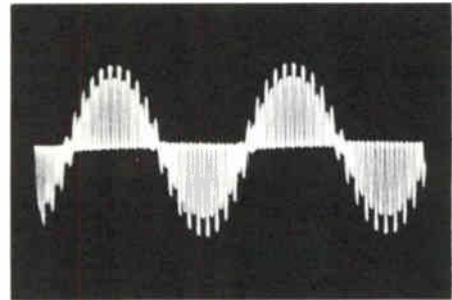
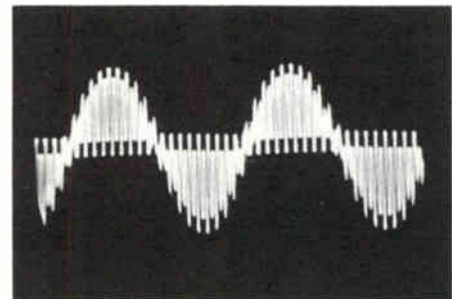

Figure 14. Trace Obtained at Pin #6 of V-5, with L-4 Adjusted for Minimum 19 Kc Signal
Figure 16. Proper Adjustment of C-10. 19 Kc Signal is 10% of Entire Composite Signal
obtain minimum 19 Kc signal in the center of the trace. See Figure 14.
2. Set the FUNCTION switch to "LEFT", and adjust C-10 to obtain a 19 Kc signal level that is 10% of the entire composite signal as shown in Figure 16.
5. Repeat steps 1 through 4 if necessary to obtain results as shown in Figure 14 and Figure 16.